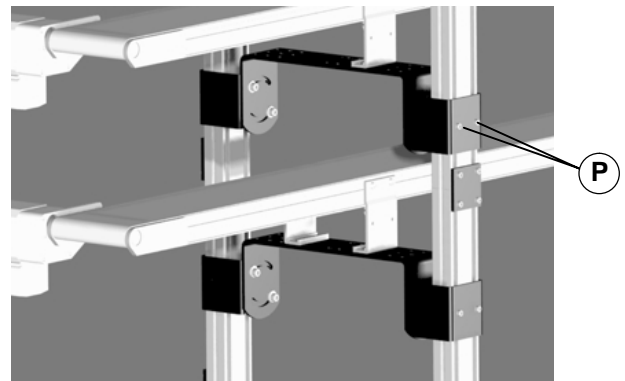

Figure 17
2. Loosen screws (P of Figure 17) on both sides of conveyor.
<p>WARNING</p> <p>Failure to secure screws (P of Figure 17) may cause conveyor sections to drop down, causing severe injury.</p> <p>TIGHTEN SCREWS (O) AFTER ADJUSTMENT.</p>
5. Tighten screws (P) to 146 in-lb (17 Nm).